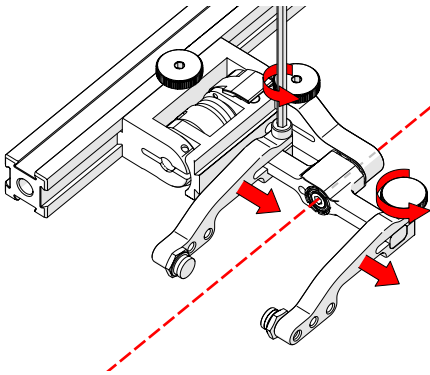

Fig. 171 - Adjust probe holder arms
5. Loosen the probe holder arm adjustment knob (Fig. 171) and remove outer probe holder arm from yoke.
6. Adjust inner probe holder arm as required to best centre the probe on the yoke's pivot axis (Fig. 171).
**TIP:** The probe holder yoke can accommodate many different probe and wedge sizes of varying widths. It is best to centre the wedge with the yoke's pivot axis to reduce wedge tipping when scanning. Position the inner probe holder arm accordingly with the centre of the yoke (Fig. 171).